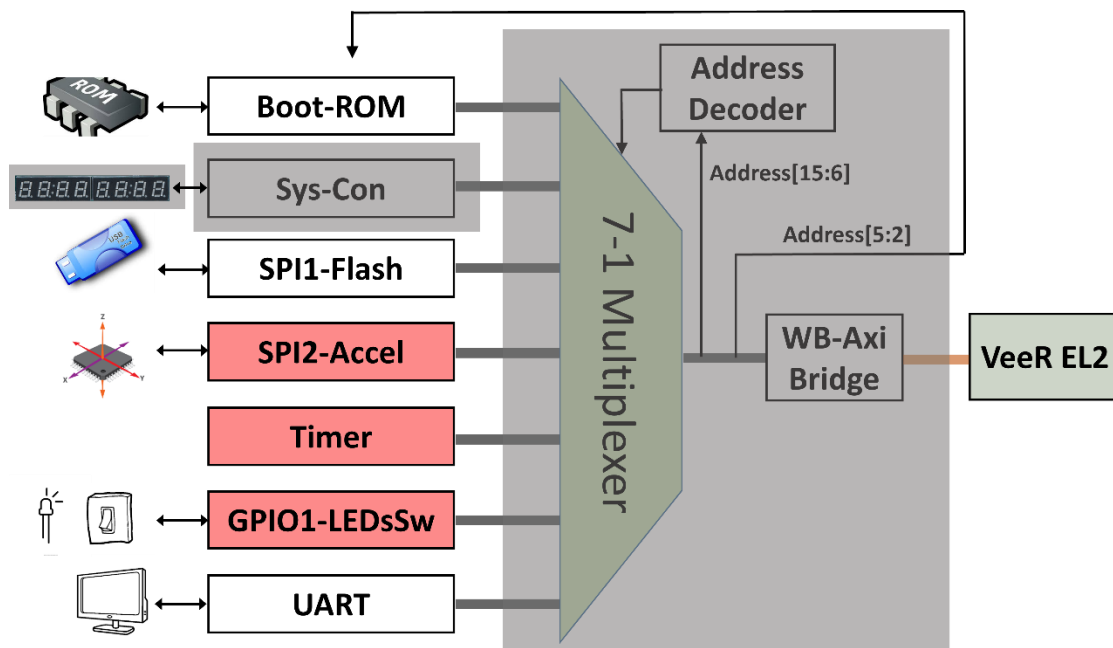

Figure 5. 8-digit 7-segment displays controller analysis in 3 phases
1. Connection between the SoC and the I/O device on the board (left shadowed region in Figure 5);
2. Integration of the new controller, which is included inside the VeeRwolfX System Controller contained in the SoC (middle shadowed region in Figure 5);
3. Connection between the new controller and the VeeR EL2 Core (right shadowed region in Figure 5).